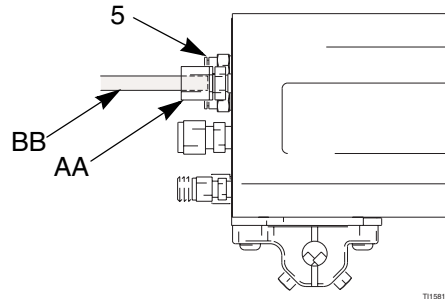

Fig. 7. Fiber Optic Cable
2. Remove the nut (AA) from the fiber optic fitting (5) and slide the nut over the end of the fiber optic cable (BB). See FIG. 7..
3. Push the cable (BB) into the fitting (5) until it bottoms out. Tighten the nut (AA) to secure the cable.